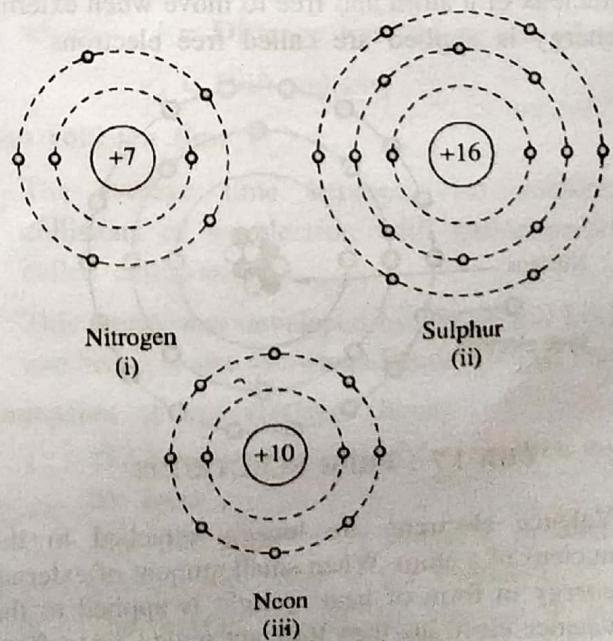

FIG. 1.5
- (2) When the number of valence electrons of an atom is more than 4, the material is usually known as an insulator. Examples are nitrogen, sulphur and neon (see Fig. 1.5).